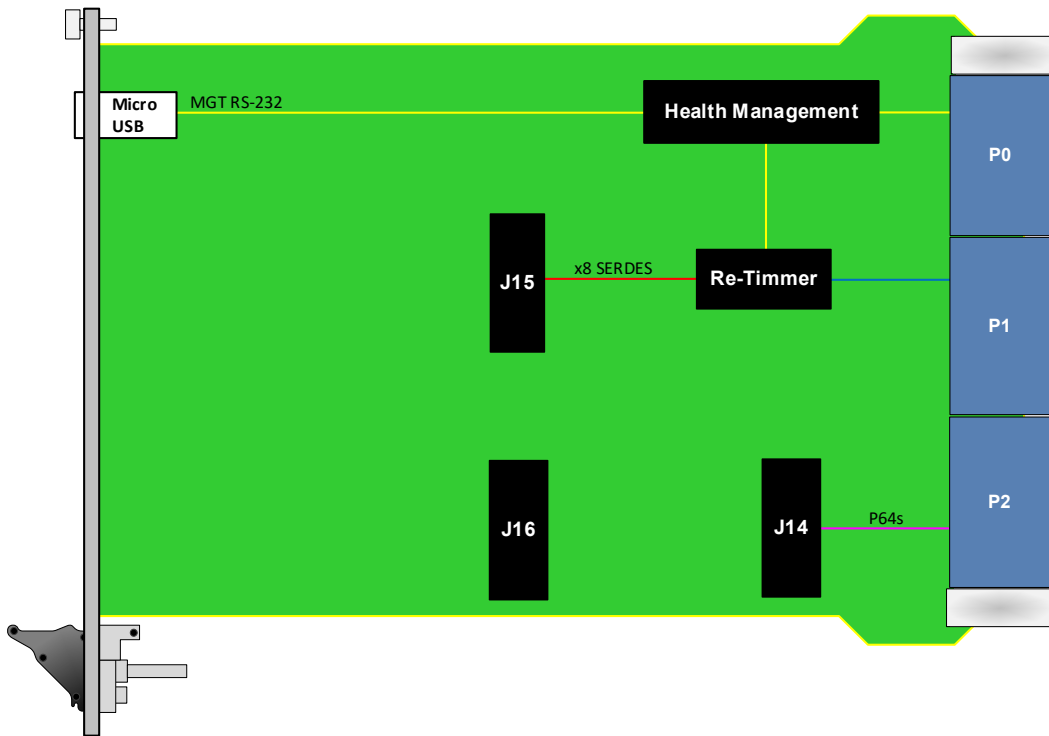

Figure 2: VPX102 Functional Block Diagram, Option C=0
- P1w9-X12d+P2w1-P64s (Figure 2)